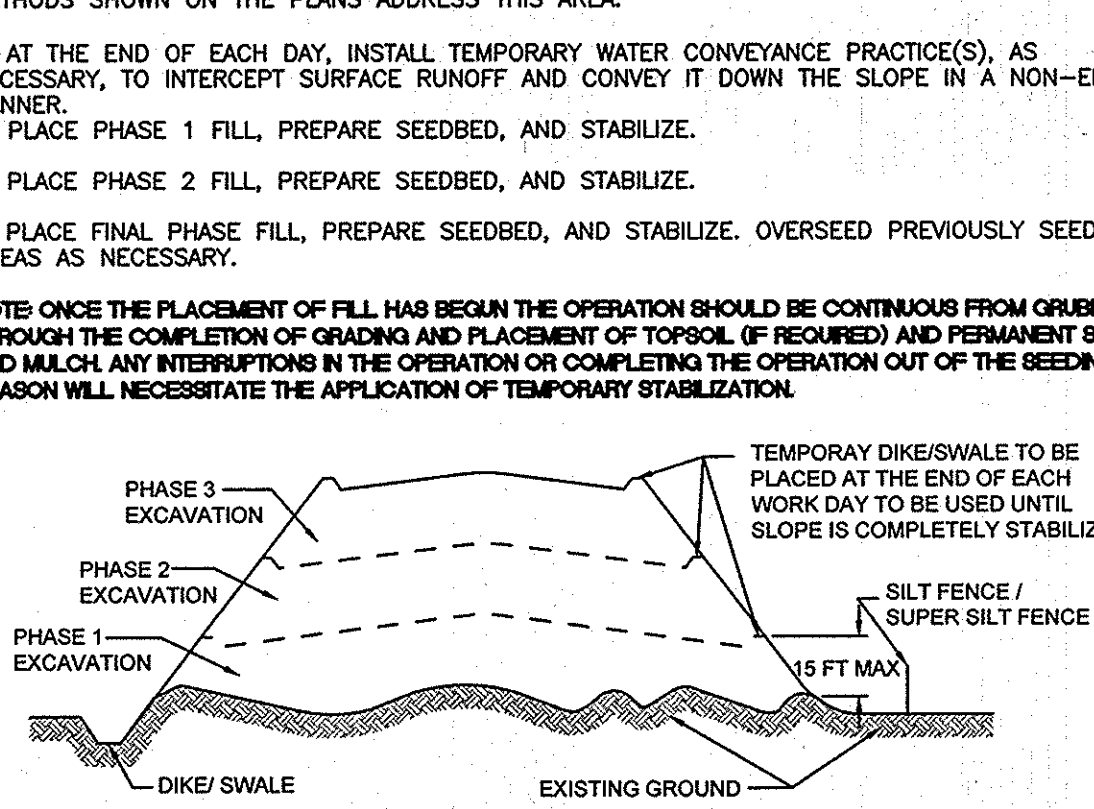

FIGURE B.2: INCREMENTAL STABILIZATION - FILL
4. CONSTRUCTION SEQUENCE EXAMPLE (REFER TO FIGURE B.2):
- CONSTRUCTION SEQUENCE EXAMPLE (REFER TO FIGURE B.2):**